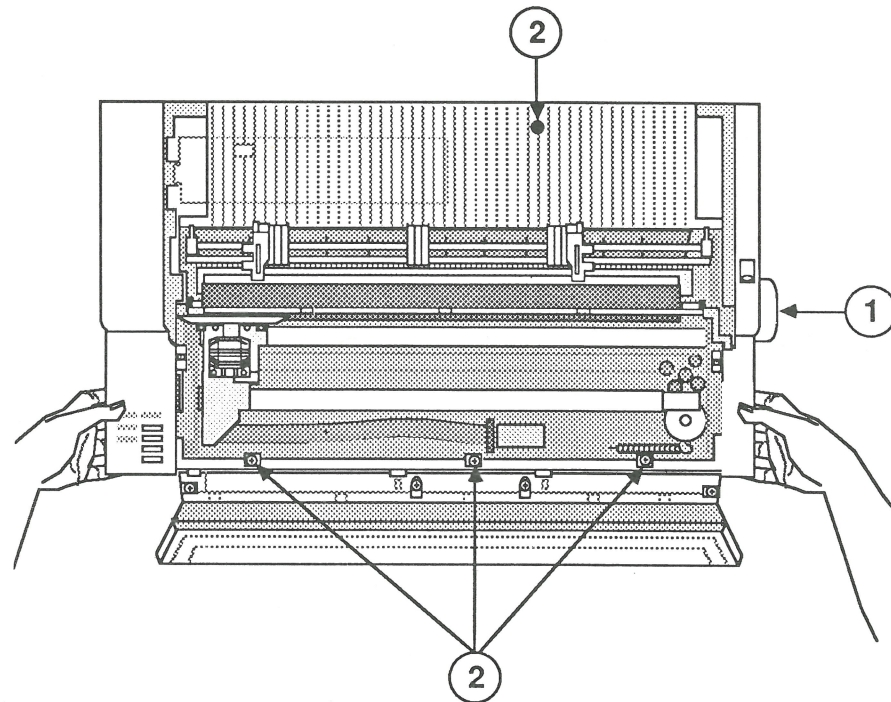

FIGURE 4
2. Remove the platen knob (Figure 4, #1) by pulling it to the right, away from the printer.
3. Loosen the four captive Phillips screws (Figure 4, #2) securing the main cover to the printer base.
4. Place your fingers under the opened front cover with your thumbs wrapped around the main cover (Figure 4). Lift the main cover up to disengage the catches from the front of the printer.